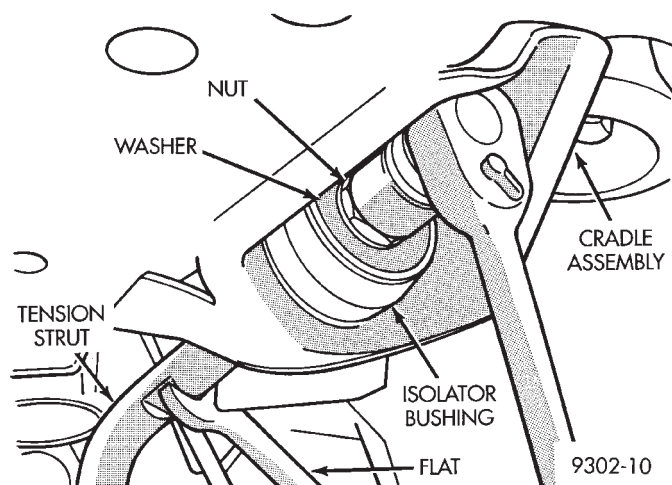

Fig. 78 Tension Strut To Cradle Mounting
(2) Install lower control arm and tension strut as an assembly back on the vehicle. See Lower Control Arm Installation in this section of the service manual for the required installation procedure.
(3) Install washer on end of tension strut (Fig. 78). Install a **NEW** tension strut to cradle bracket nut, on tension strut (Fig. 78). Tighten the tension strut to cradle bracket retaining nut to a torque of 150 N·m (110 ft. lbs.). When torquing tension strut nut, keep tension strut from turning by holding tension strut at flat using a large open end wrench (Fig. 78).